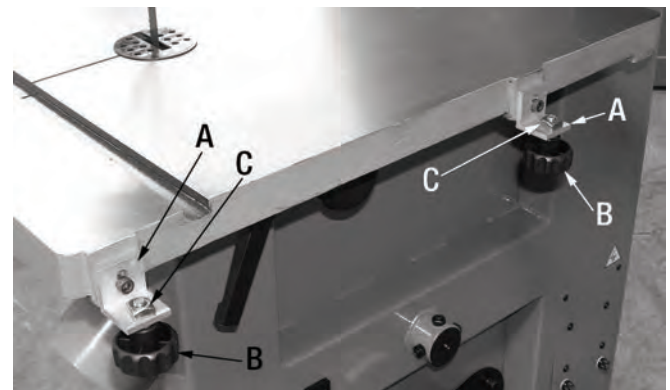

FIGURE 7
4. Mount the small rear rail mounting brackets (A) Fig.7 to the rear of the table using hex. bolts.
5. Mount lock knobs (B) Fig.7 and flat square nuts (C) to the mounting brackets as shown.
6. Slide the square slot at the bottom of the rear rail onto both flat square nuts, tighten lock knobs (B) Fig.7 to secure the rear rail in the desired position.
The rip fence should be no more than 1mm above the table top. To adjust the height of the rip fence, loosen the front rail and rear rail mounting brackets (A-Fig.5 and Fig.7), adjust the height of the mounting brackets until the rip fence is positioned 1mm above the table top, retighten front rail and rear rail mounting brackets.